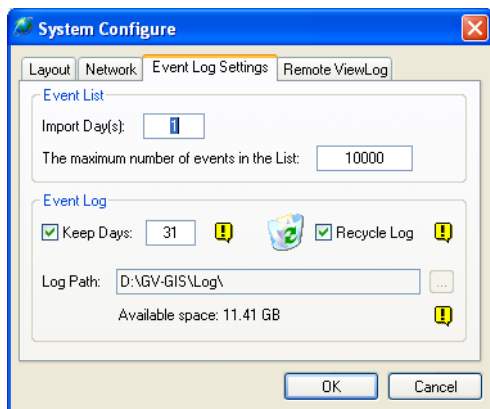

Figure 5-39
2. Click the **Page Setup** button (No. 6, Figure 5-39). This dialog box appears.
4. Click the **Print** button (No. 7, Figure 5-39) to start printing.